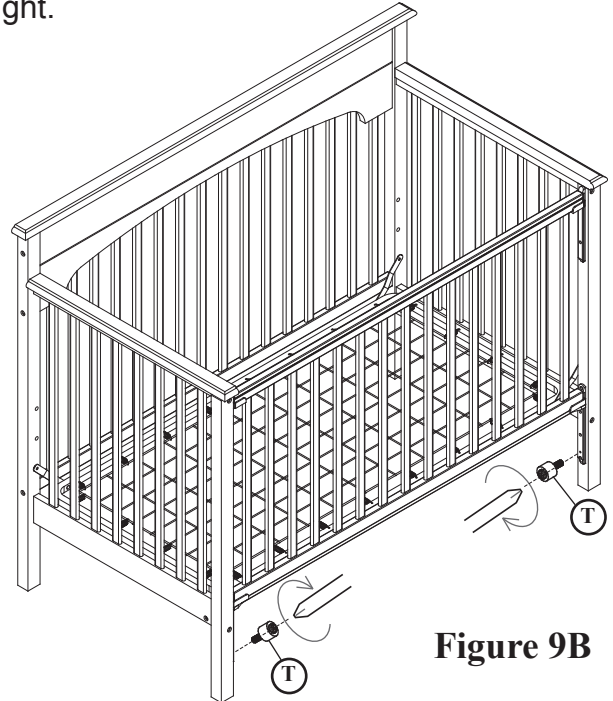
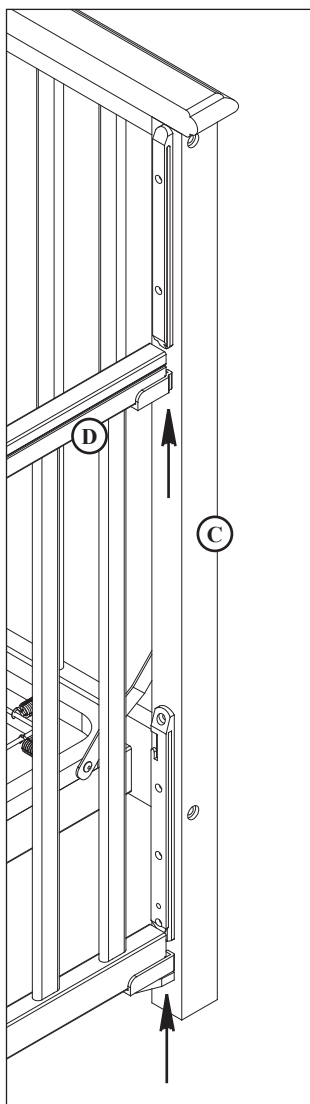

Figure 9B
Figure 9A
Attach the Dropside Rail (D) to cribs ends as shown in Figure 9A, pull the drop rail up to the highest position. Screw the (2) block brakes (T) into the holes provided in the lower plastic drop track as shown in Figure 9B, tighten block brakes with a Philips screwdriver. Insert the foot casters (S) as shown in Figure 9C and tighten all bolts. Inspect the crib to make sure it is assembled correctly and all bolts are tight.